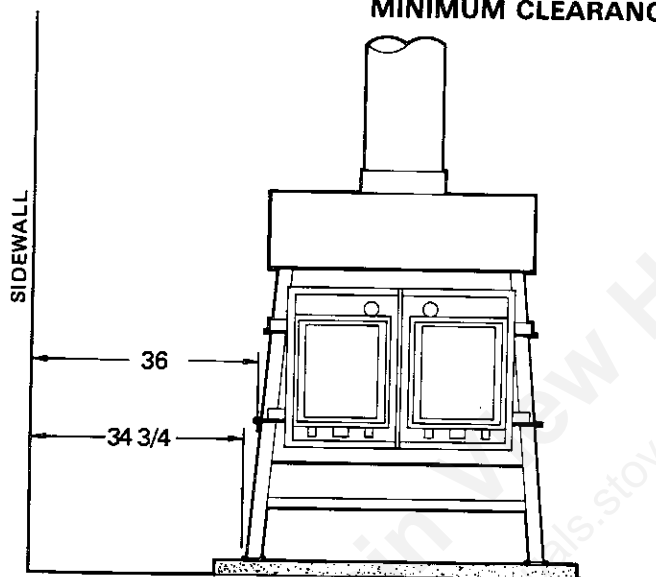

FIG. 3 (FRONT VIEW) Floor Protector
3. Check Figures 3, 4 and 5. You should have at least the clearances shown from the heater and the connector pipe to combustible surfaces. If you have a solid brick or stone wall behind your heater, you can place the heater as close as you wish to the wall. If the wall is only faced with brick or stone, treat it as a combustible wall.